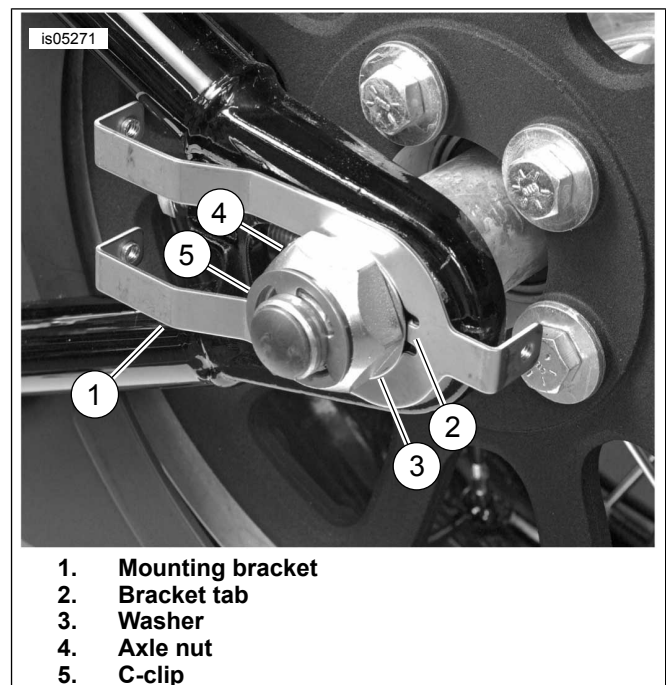

Figure 1. Install Mounting Brackets
4. See Figure 1. Position one mounting bracket (1) on left swingarm, as shown. Move bracket toward rear of swingarm so tab (2) is touching the inside edge of axle slot in swingarm.
6. Complete axle bracket installation by reinstalling thrust washer (3) (from kit) and nut (4) removed in Step 2. Tighten axle nut to 128.8–142.4 N·m (95–105 ft-lbs).
7. Install C-clip (5) to left side axle slot.